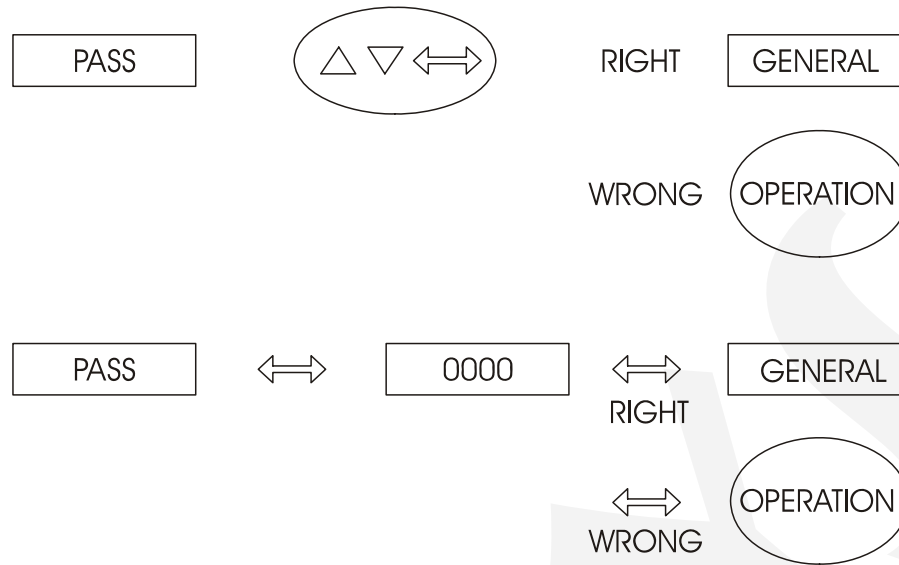

Fig. 8 - Password System by Key and by Value
- ii) The display shows the password mnemonic, indicating that the instrument is provided with a password system which can be either by key or by value, as illustrated on figure 8.
In case of password by value the user should press the ENTER key a second time to obtain the display of number 0000 with the last digit flashing on the right. The flashing digit indicates the position where the digit of a 4-digit number will be entered by the user. In order to move to the other digits to the left of the number one should press the ENTER key. After entering all digits, press once more the ENTER key to switch to level 1 in case the password is correct; otherwise, the system reverts to normal operation mode (see figure 8).